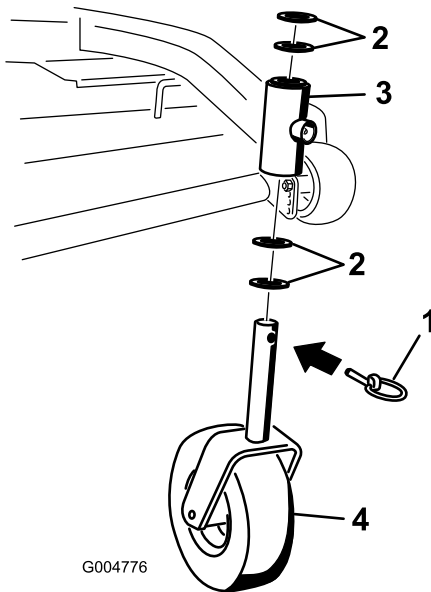

Figure 39
2. Remove the locking pin and spacer(s) from the top of the caster wheel fork (Figure 39).
6. Inspect the caster wheel fork for wear and replace if necessary (Figure 39).
7. Slide the caster wheel fork through the bushings in the mounting tube. Replace the spacer(s) onto the fork and secure with the retaining ring (Figure 39).